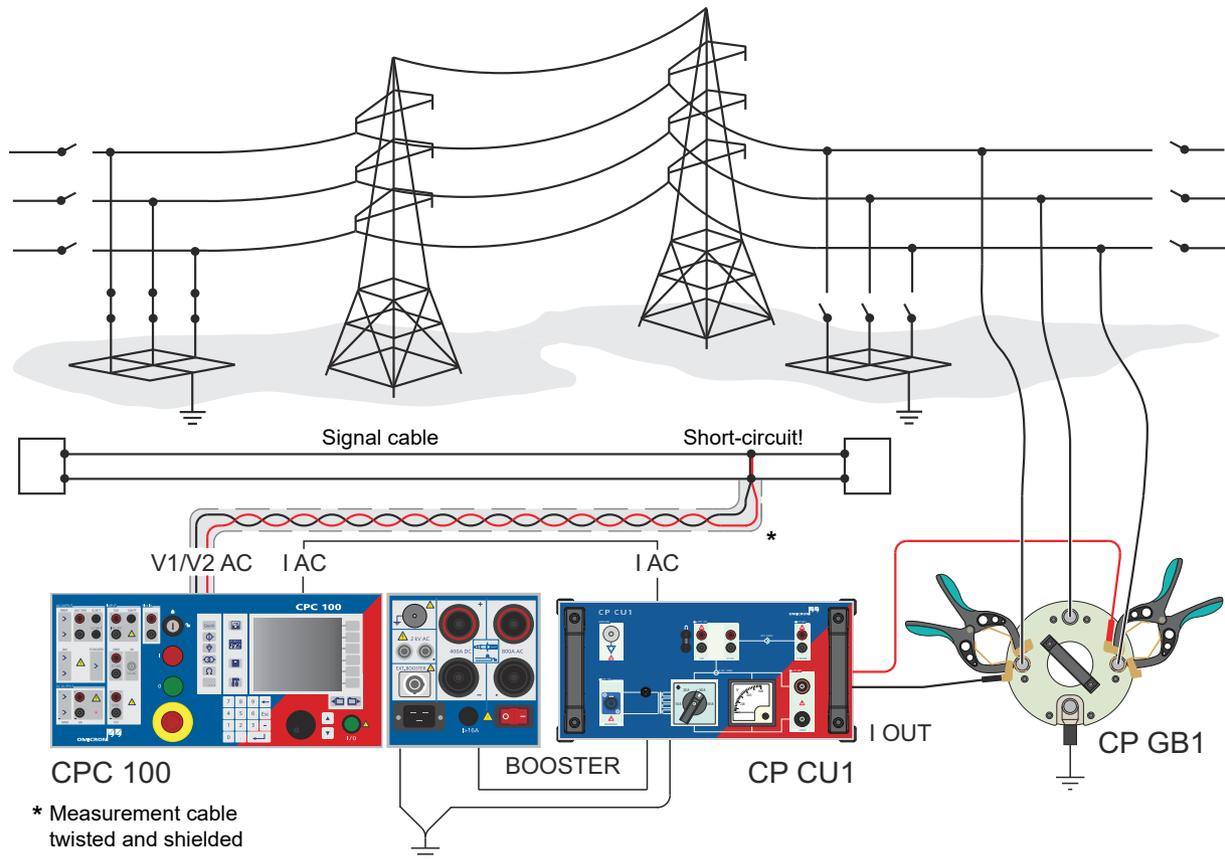

Figure 6-1: Coupling into signal cables measurement setup for the line-to-line calibration
5. If the measurement is possible, establish the measurement setup as shown in Figure 6-1 below.
7. Short-circuit the measurement cable at the end and connect it to the signal cable as shown in Figure 6-1 above.